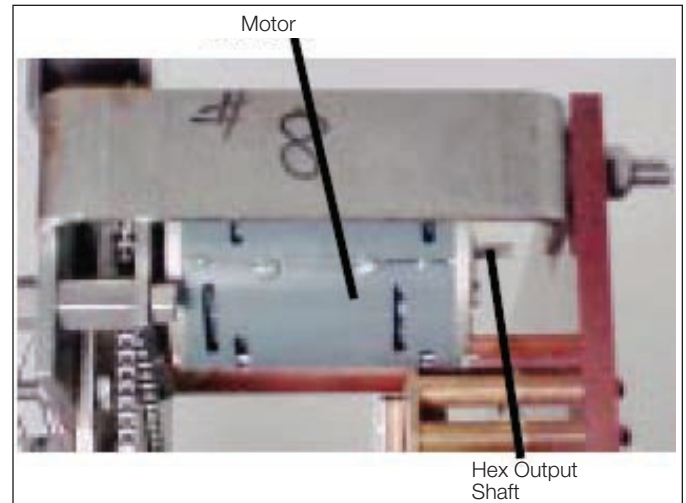

Figure 4.
- To relocate the main movable contacts use a 1/4 inch (7 mm) deep well socket and ratchet. Place the socket on the hex output shaft at the rear of the motor. See Figures 4 and 5.